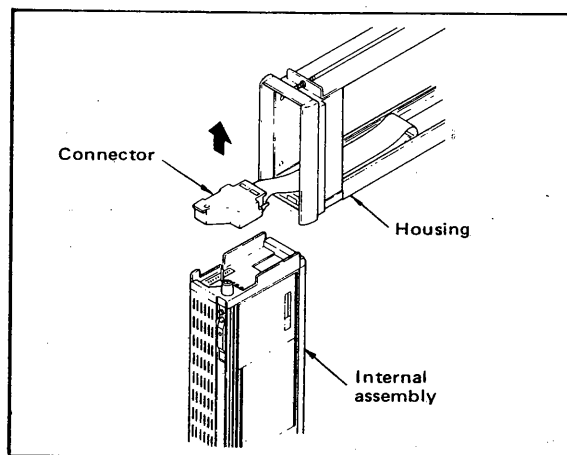

Figure 5-8. Detaching Connector.
- (3) Detach the connector from the internal assembly, its front panel facing down, as shown in Figure 5-8. The internal assembly can now be separated from the housing. (See Figure 5-8.)